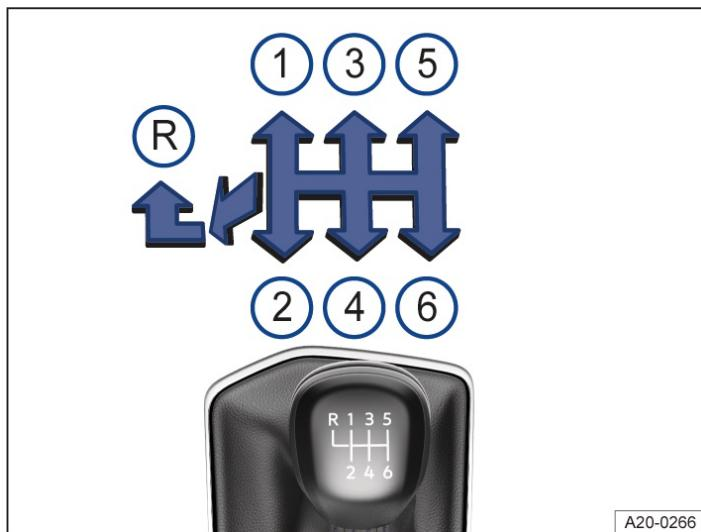

Fig. 1 Gear shift pattern of a 6-speed manual gearbox.
2. Move the gear lever to the required position → *Fig. 1* 1.
3. Push the gear lever fully to the left and then forwards into the reverse gear position → *Fig. 1* R.